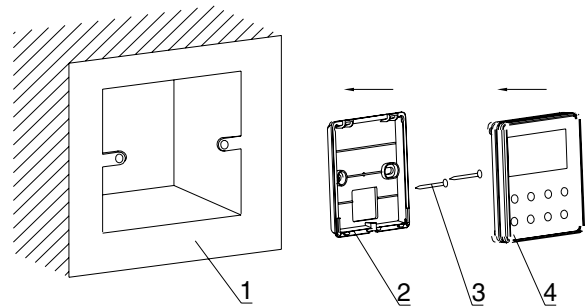

Fig.8.18 Sketch for Installation of Wired Controller
5. No matter surface mounting or concealed mounting is selected, it is required to drill 2 holes (in the same level) distance of which shall be the same as the distance (60mm) of installation holes in the bottom plate of the wired controller. Then insert a wood plug into the holes. Fix the bottom plate of the wired controller to the wall according the two holes. Plug the control wire onto the wired controller. Then, install the panel of the wired controller (Refer to Fig.8.18).